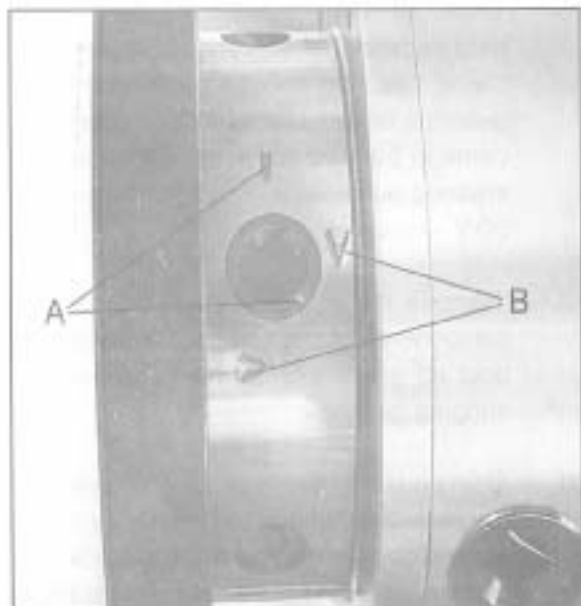

Fig. 2
6. Lift the chuck up to the spindle nose and press onto the spindle. Tighten in place by turning the cam locks 1/4 turn clockwise. The index mark (A, Fig.2) on the camlock should be between the two indicator arrows (B, Fig.2). If the index mark is not between the two arrows, remove the chuck and adjust the camlock studs by either turning out one full turn (if cams will not engage) or turning in one full turn (if cams turn beyond indicator marks).